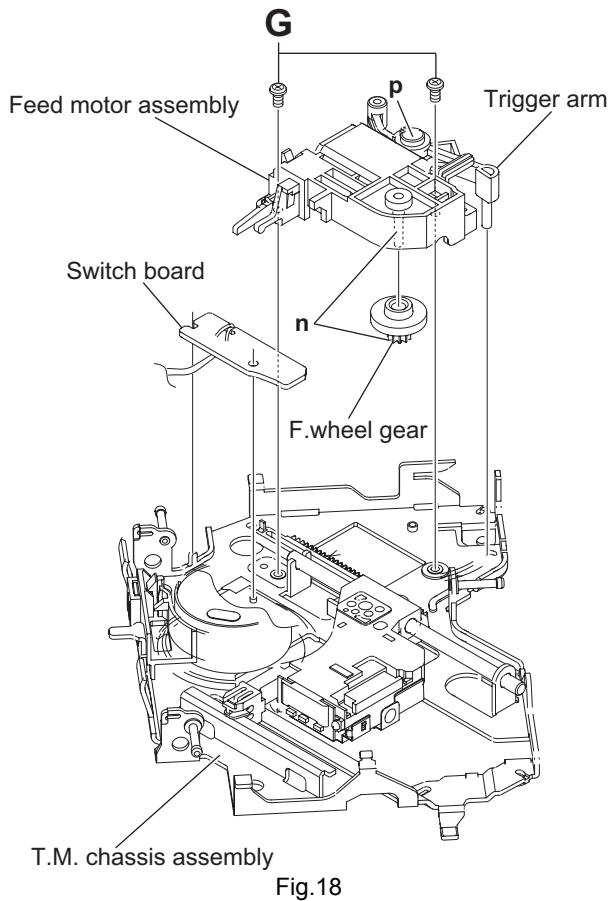

Fig.18
3.2.10 Removing the feed motor (See Fig.18 and 19)
- From the bottom side of the T.M chassis assembly, remove the two screws **G** attaching the feed motor assembly. (See Fig.18.)
When attaching the f. wheel gear, trigger arm and feed motor, apply grease to the sections (**n**, **p** and **q**). (See Fig.18 and 19.)
3.2.11 Removing the SWITCH BOARD assembly (See Fig.18)